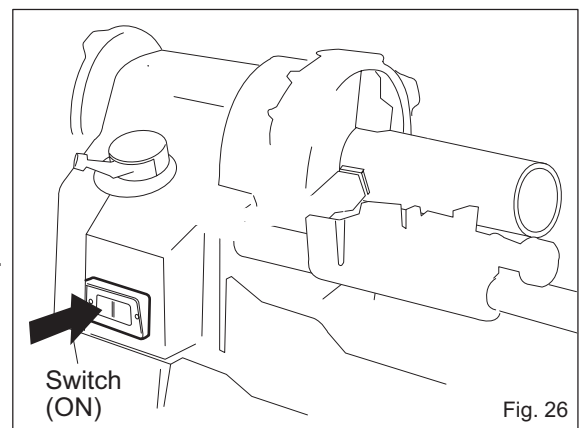

Fig. 26
1. Turn on the machine to set the main shaft in motion. (Fig. 26)